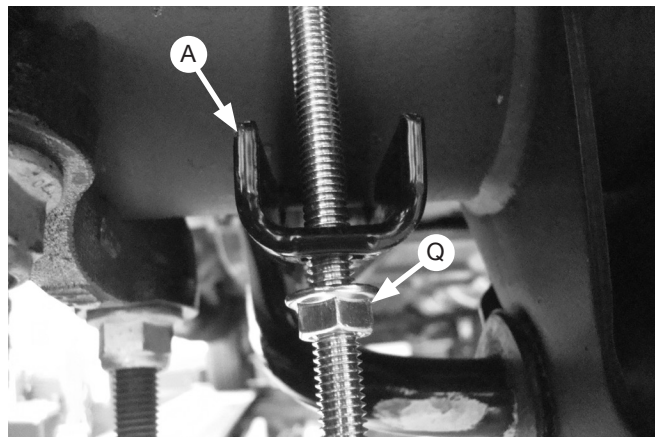

Fig. 19
If there is a sway bar, insert the carriage bolts through the Clamp bar (A) while setting the assemblies into position over the axle (see Fig. 19).
- If not completed, set the lower clamp bars (A) over the carriage bolts located under the axle (Fig. 19). Attach with the 3/8" serrated flange lock nut (Q). Evenly torque the lower clamp bar hardware to 16 lb.-ft. (22Nm). Finish tightening the U-bolt hardware previously snugged by torquing to 10 lb.-ft. (14Nm).